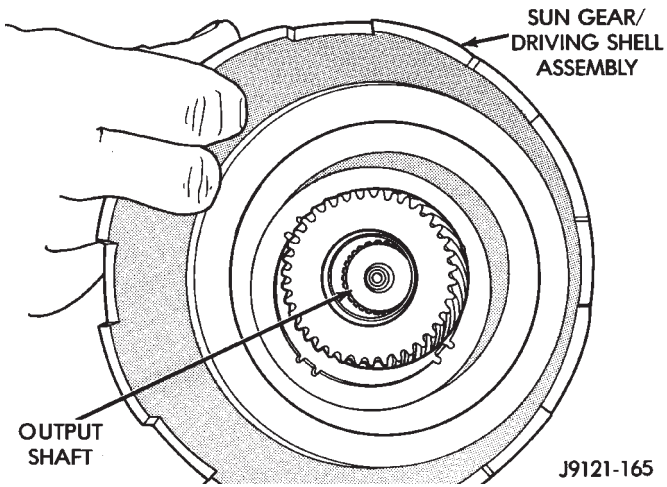

Fig. 160 Installing Assembled Sun Gear And Driving Shell On Output Shaft
(12) Install assembled driving shell and sun gear on output shaft (Fig. 160).